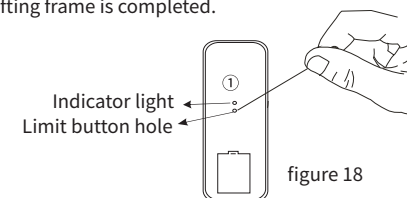

figure 18
- c. Use a small paper clip or small round needle to insert the electronic positioning setting key of the elevator on the back of the remote control (as shown in figure 18), press the electronic positioning setting key of the elevator, the red and blue LEDs will light up, and then press the elevator Rack down button, at this time, after the lifting frame is lowered to a suitable position, press the stop button of the remote control as shown in figure 19), and then press the electronic positioning setting button of the lifting button, the red and blue light-emitting diodes are off, and the lifting frame moves up and down. The electronic lower limit setting of the lifting frame is completed.